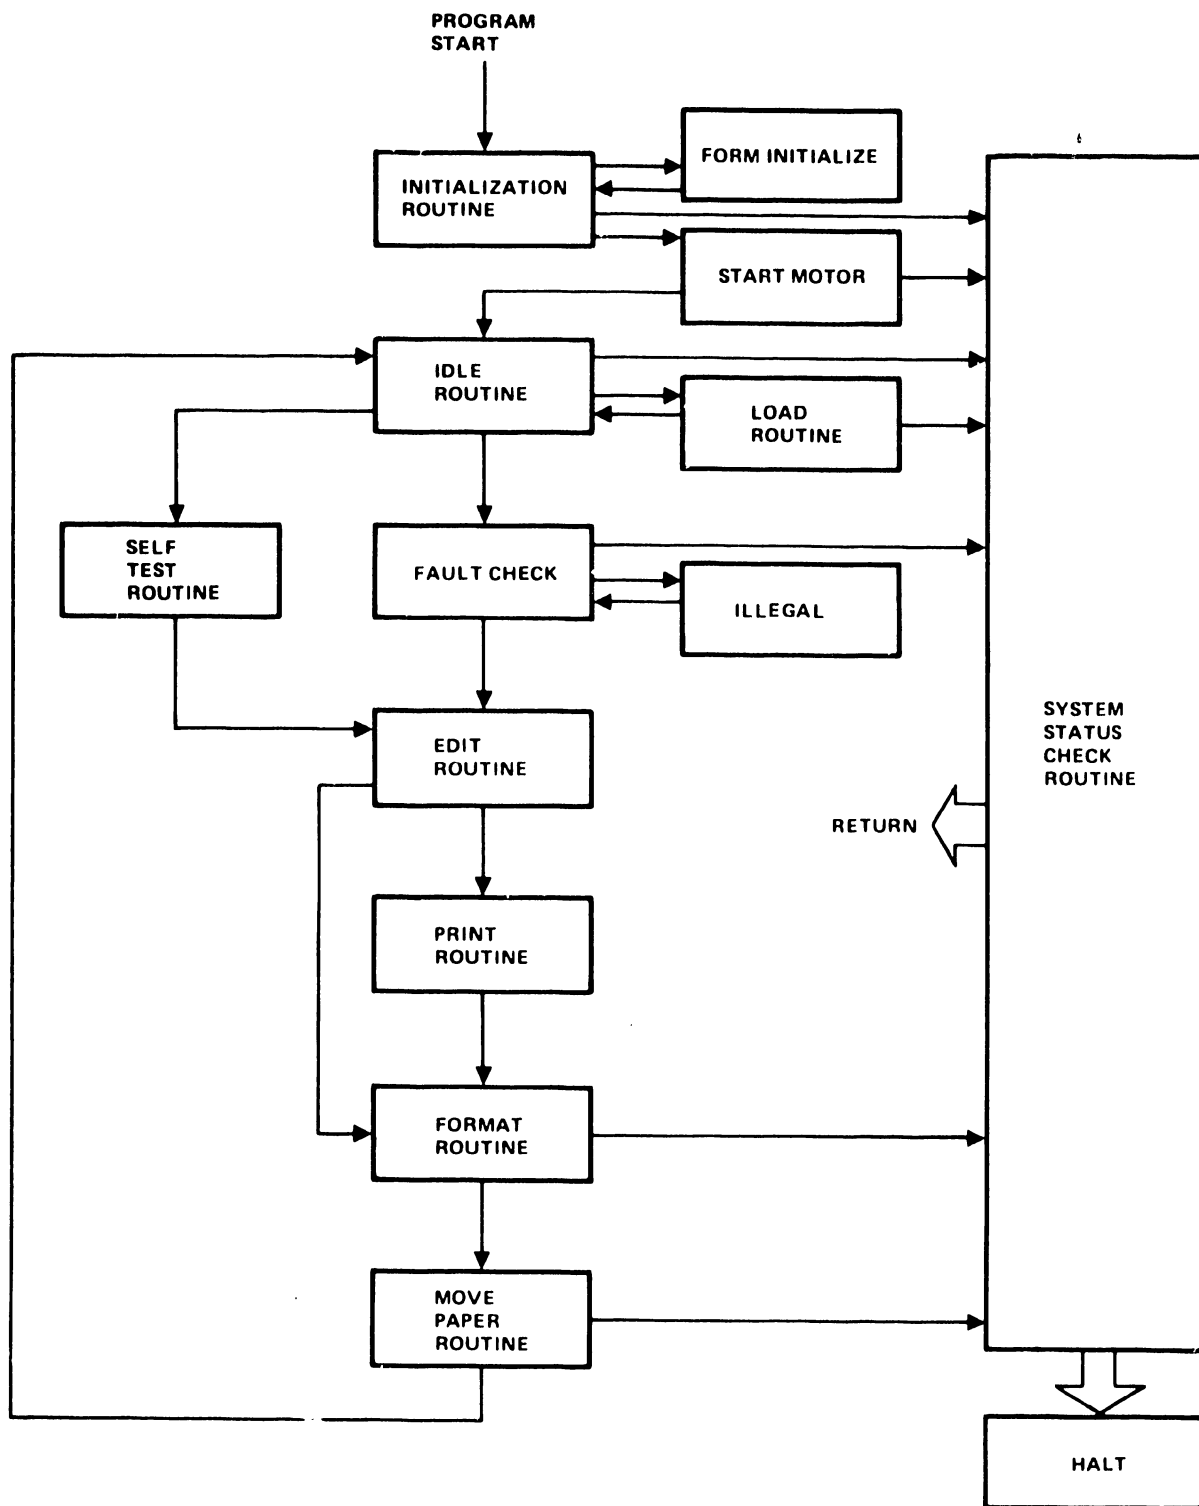

Figure 2-64. Program Overview
**Figure 2-64** is a flow chart of the program overview to help place the routines in sequence.